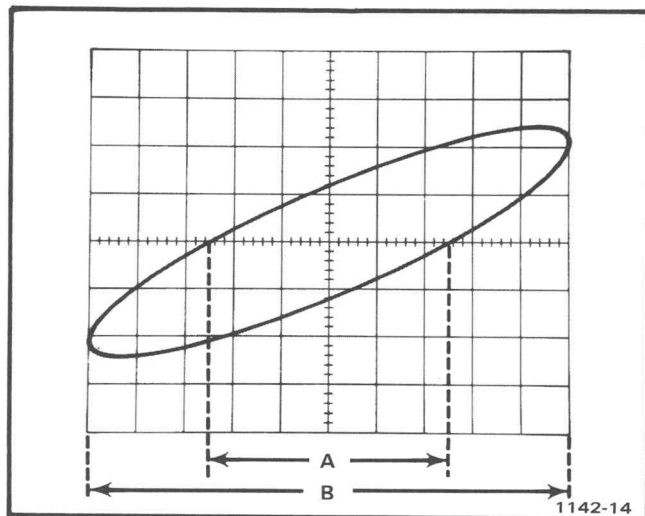

Fig. 7. Phase-difference measurement from an X-Y display.
3. Position the display to the center of the screen and adjust the CH 1 VOLTS/DIV switch to produce a display less than six divisions vertically (Y). Reduce the horizontal (X) deflection to less than 10 divisions by reducing the amplitude of signal applied to the EXT HORIZ input connector.
4. Center the display in relation to the center graticule lines. Measure the distance A and B as shown in Fig. 7. Distance A is the horizontal measurement between the two points where the trace crosses the center horizontal line. Distance B is the maximum horizontal width of the display.
**Example.** To measure the phase of the display shown in Fig. 7 where A is 5 divisions and B is 10 divisions, use the formula: